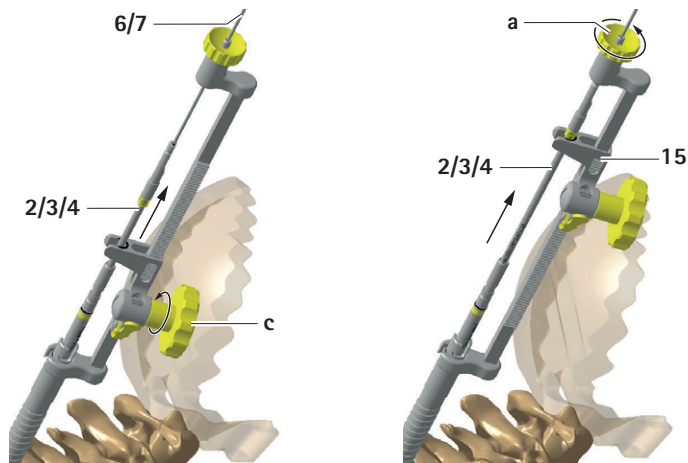

Fig. 17
- ▶ Turn the golden hand wheel **c** clockwise. This extracts the drill **2/3/4** (SZ013SU/SZ013R, SZ014SU/SZ014R, SZ015SU/SZ015R) while holding the K-wire **6/7** (SZ137SU/SZ137R or SZ158SU/SZ158R) in place, as can be seen on the left side of the image, see Fig. 17.
- ▶ Once the drill is fully removed from the bone, release the K-wire lock **a** by turning it counter-clockwise, as can be seen on the right side of the image, see Fig. 17.